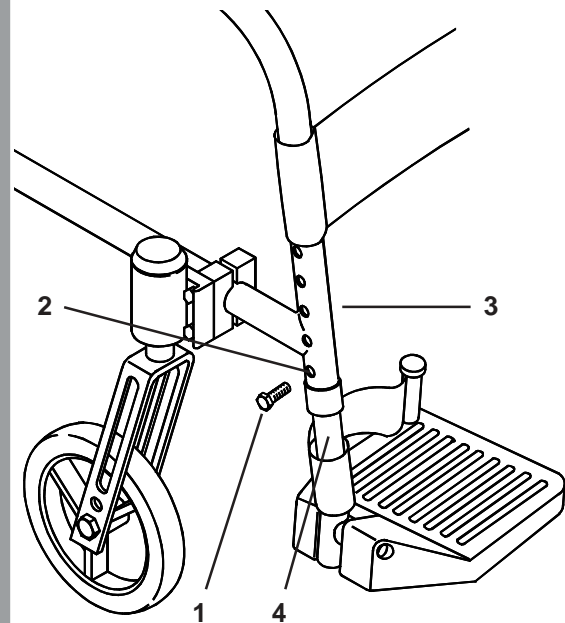

Fig. 35
To adjust the height of flip up footrest, remove the bolt (1) as shown, (use a 10mm A/F spanner) move the footrest assembly to the desired position, ensuring the hole (2) in the outer tube (3) align with the hole in the inner tube (4). Replace the bolt and tighten to 5Nm torque setting (Fig. 35).